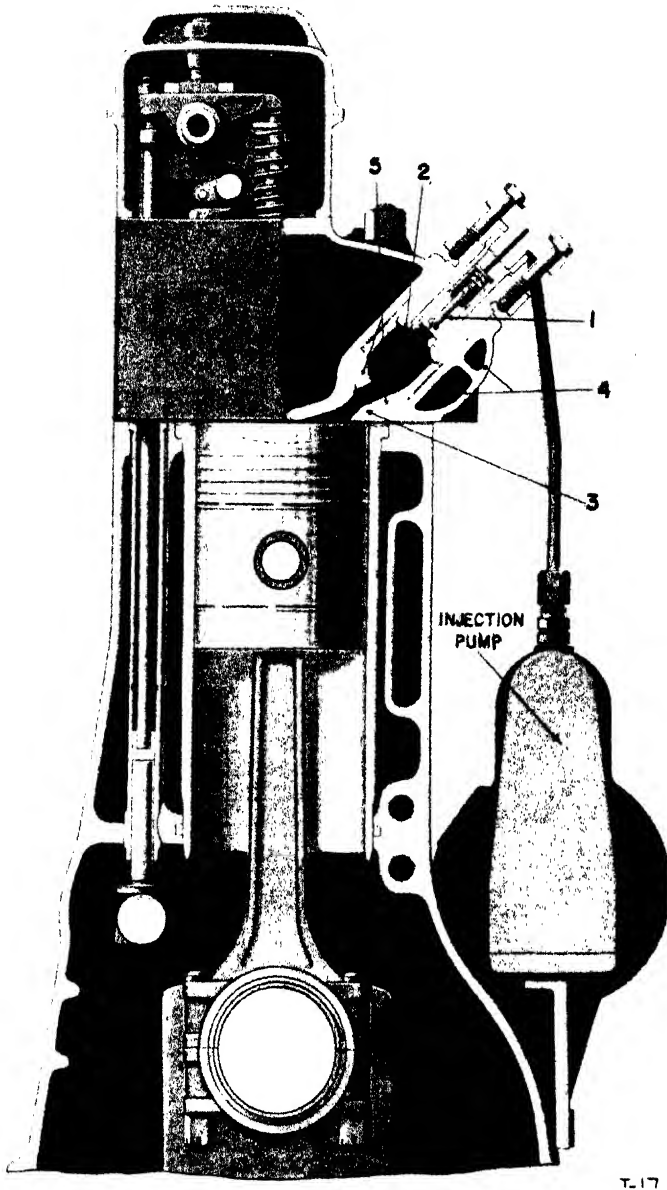
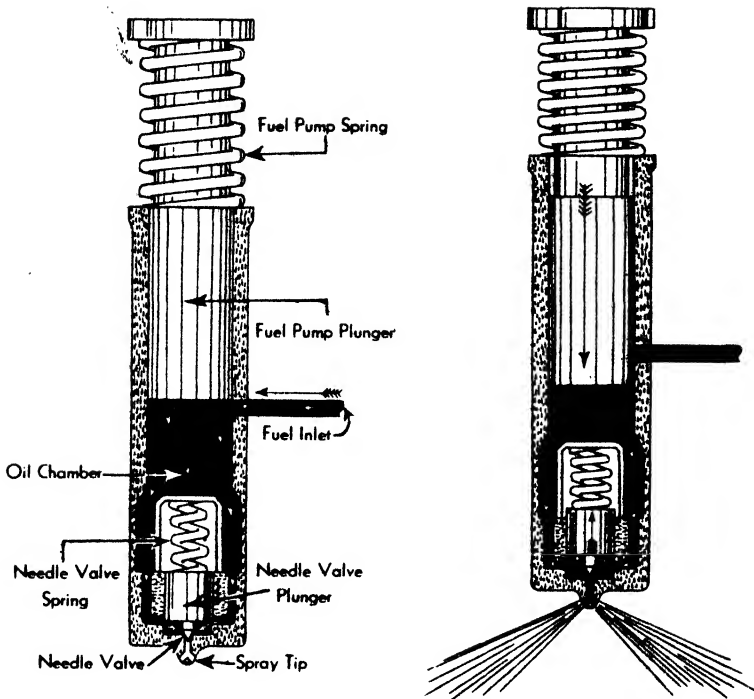

FIG. 190A. FUEL INJECTOR FOR DIESEL ENGINE. (Courtesy, International Harvester Company.)
FIG. 190B. FUEL INJECTOR FOR DIESEL ENGINE.
der are the intake and exhaust valves and a spark plug (in a diesel engine, the spark plug is replaced with a fuel injector) Fig. 190A.
The heart of the diesel engine is the fuel injection system which must, under high pressure, measure and force the exact amount of fuel to each cylinder at exactly the proper time in every cycle of each piston. A four cylinder, four cycle diesel engine, running 1500 r.p.m. requires 3000 fuel injections per minute — 180,000 injections per hour. If this engine uses two gallons of fuel an hour, the fuel must be divided into 180,000 parts and forced into the cylinder against the compression pressure of 500 or 600 pounds per square inch. Modern engines use the solid injection system. This consists of a small pump and nozzle for each cylinder, shown in Fig. 190B. The pump is so accurately made that it can produce pressures up to 20,000 pounds per square inch to force oil through the small openings in the nozzle at 780 miles per hour. Referring to Fig. 190A the fuel is forced through the valve (1) into the pre-combustion chamber (2) where it is partially burned. It is then blown through the large opening (3) into the main combustion space for complete combustion. The nozzle and
Fig. 190B illustrates the action of the fuel pump and injector. Oil enters the fuel inlet, filling the injector. As the plunger moves down, the fuel inlet opening is covered.
engine the fuel and air are mixed before they enter the cylinder (by the carburetor): in the diesel engine the fuel and air are mixed within the cylinder. The gasoline engine compresses the mixture of gasoline and air which is ignited by an electric spark. The diesel engine compresses only a charge of air (the heat caused by this compression raises the temperature of the compressed air to about 1000°F), and the fuel, then forced into the cylinder by an injector (Fig. 190B) is ignited by the heat of compression.